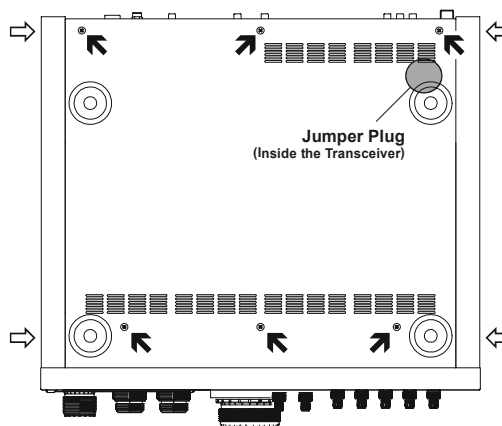

Figure 1
3. Referring to Figure 1, remove the eight screws from the sides of the transceiver case.
4. Now remove the six screws shown in Figure 1 from the bottom case.